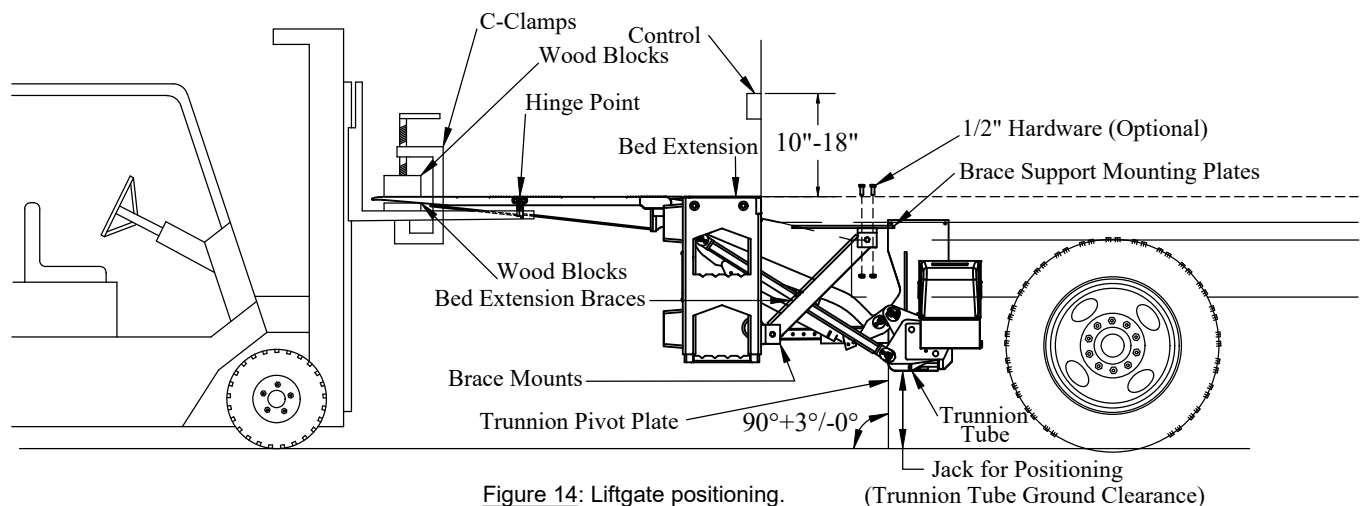
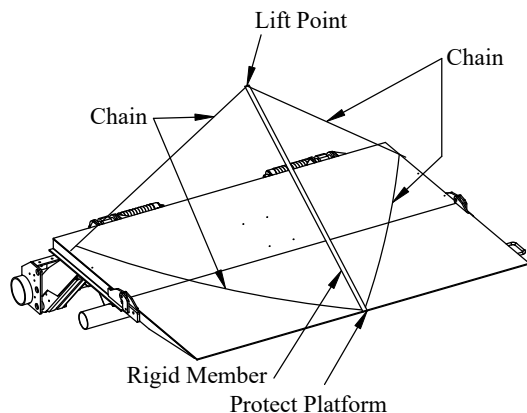

Figure 14: Liftgate positioning.
Figure 15: Liftgate positioning with overhead lift.
2. **Lift** the liftgate with a forklift or overhead lift (Figure 14 or Figure 15).
9. **Place** a jack under the trunion tube to aid in positioning the liftgate (Figure 14).